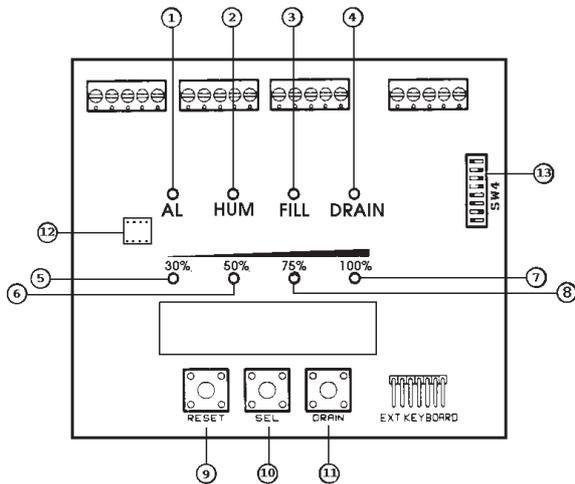

Figure 10 - Humidifier controller PCB
5. Select the required percentage of steam production by depressing the selection button until the relevant LED (LED's 5 to 8 in Figure 10) illuminates.
When a call for humidification is sent to the humidifier controller, it may respond by signalling a pre-alarm or an alarm condition. These pre-alarms/alarms are indicated by the illumination of the red Alarm LED and a combination of the 4 percentage steam production LED's (LED's 5 to 8 in figure 10). The combination of the 4 percentage steam production LED's denotes a specific Error code, the meaning of which is given in the table overleaf.